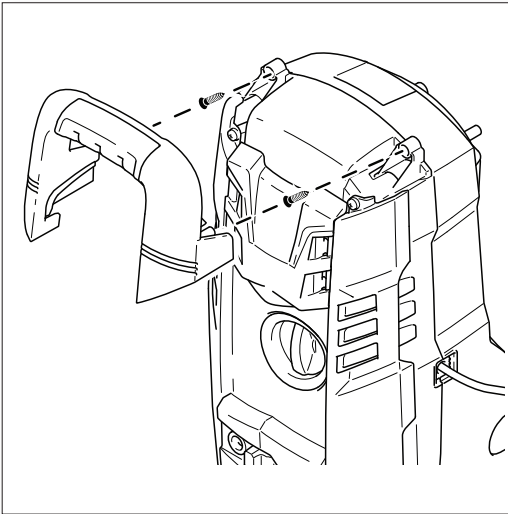

Fig. 1
- Slide the handle onto the front side of the washer when facing it. This requires two screws. **(Fig. 1)**